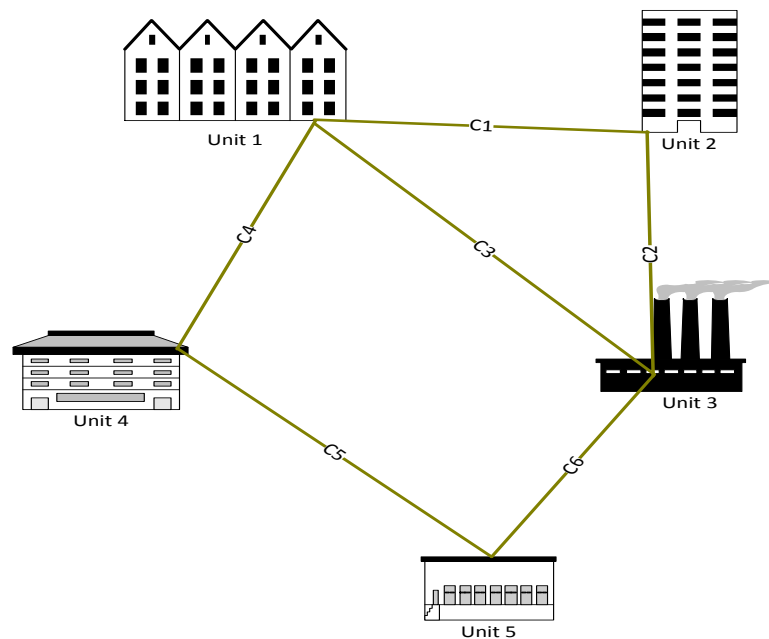

Fig. 1 A Communication Cable Configuration
1. **[Programming Exercise - 5 Marks]** An industrial communication company is planning to lay cables to a new factory allowing all the factory’s units to be linked for the interchange of data. If it is constrained to bury the cable only along certain paths, then there would be an undirected graph representing which points are connected by those paths. Some of those paths might be more expensive, because they are longer, or require the cable to be buried deeper; these paths would be represented by edges with larger weights. For example, Figure 1 shows 5 factory’s units and the possible paths along which the cables can be buried.